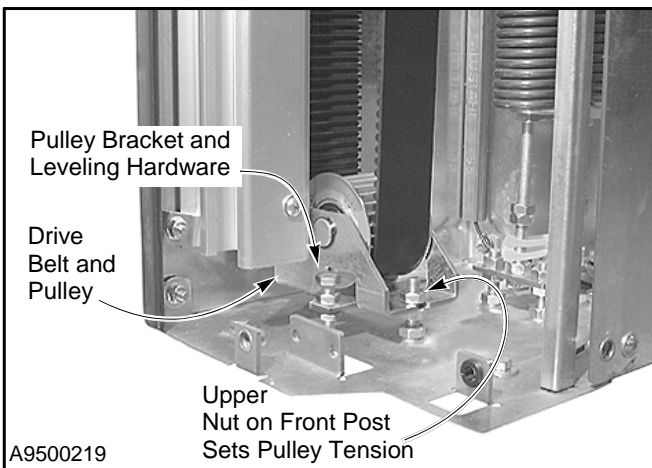

Figure 33
- Level pulley assembly as required and tighten hardware. (See Figure 33.)